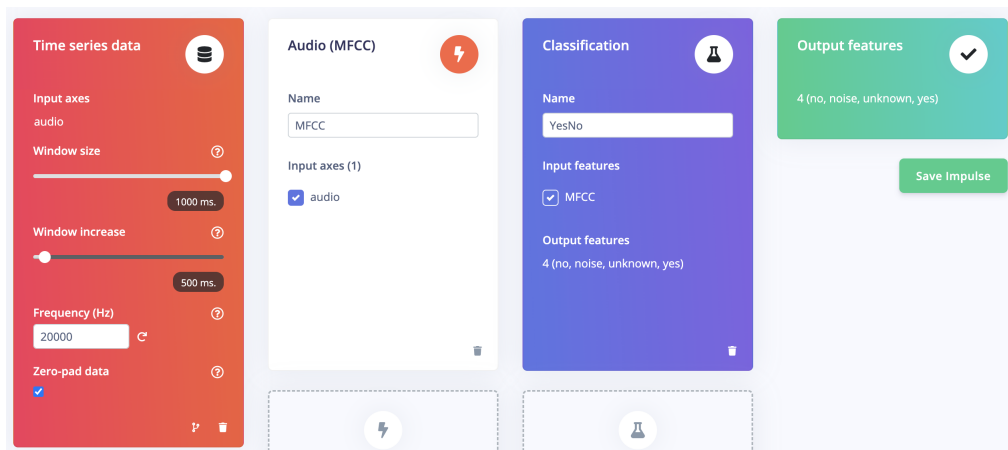

Figure 10.3: The impulse setup should look similar to this. Note the frequency is 20kHz.
12. The impulse should look like what is shown in Figure 10.3